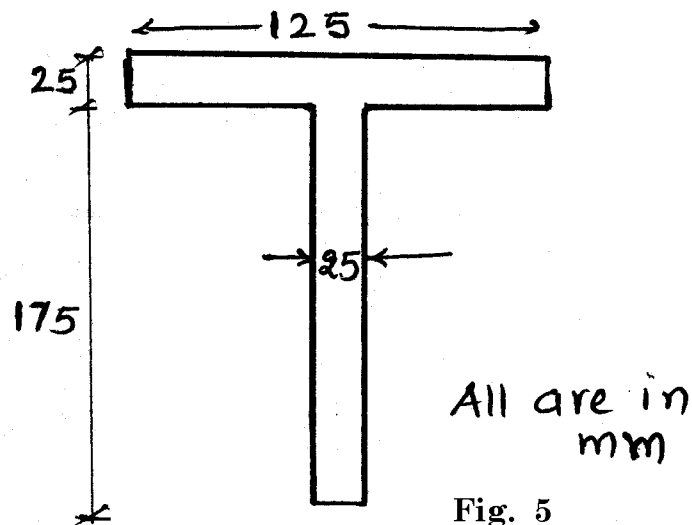

Fig. 5
- (b) A beam is supported at its two ends and induce 200 kN shear force. The cross section of the beam is shown in figure 5. Plot the shear stress distribution diagram at various point of the section. Moment of inertia (I) = $2953 \times 10^8 \text{ mm}^4$.